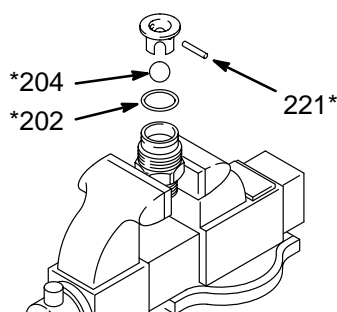

Fig. 17
2. Disassemble the intake valve. Use a pick to remove the old gasket (202). Clean and inspect the parts. See Fig. 17.
3. Reassemble the intake valve using a new gasket (\*202\*), ball (\*204\*) and pin (\*221\*). See Fig. 17.